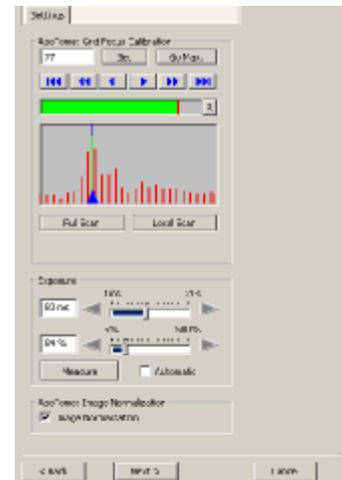

Figure 3
7. In step 3 of the ApoTome calibration, the grid contrast is being maximized to bring the grid into focus with image plane (Figure 3). This can be carried out manually however better results are usually obtained using automated scans to identify the maximal contrast intensities as seen in the graph. Click on the *Full Scan* button and allow the scan to finish and repeat using the *Local Scan* button. Click on the *Next* button.